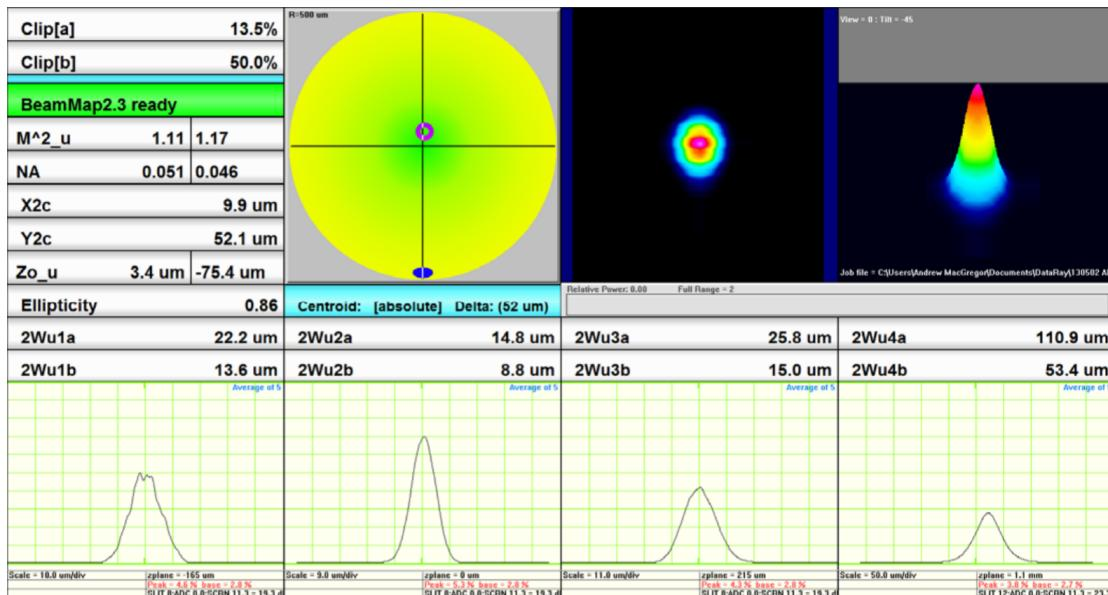

Figure 3: The software after changing the filtering and averaging settings for the pulsed beam
12. Click the **Average** drop-down menu and select **Average 5**. The result should look something like Fig. 3.